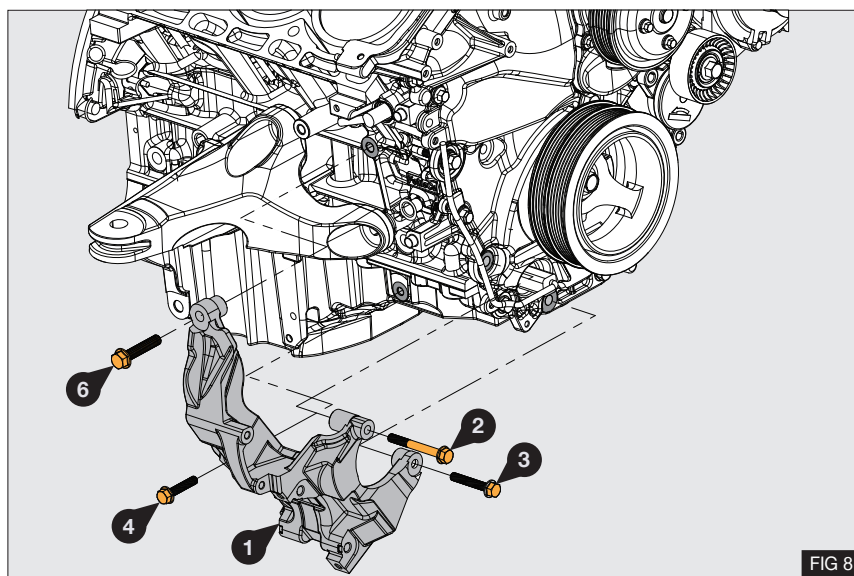

FIG 8
1. Install the mounting bracket (1) using bolt M8 x 70 (2) and M8 x 50 bolt (3). Use M10 x 50 bolt (6) and M8 x 40 bolt (4) - Fig 8
- Bolts (2), (3) and (4) to 21.4 lb.ft / 29 Nm
- Bolt (6) to 37 lb.ft / 50 Nm